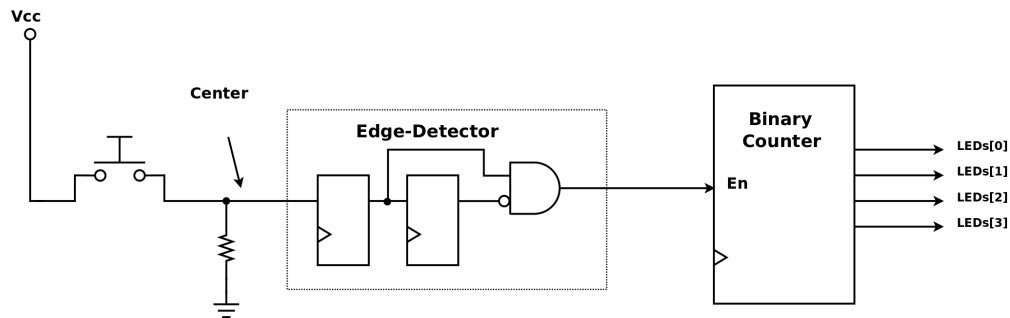

Figure 10: Example Synchronous Circuit without Debounce Circuitry
- (a) Figure 10 provides a simple synchronous circuit that will be sensitive to switch bounce. This circuit contains a binary counter with an enable controlled by the output of an edge-detector. The edge-detection circuitry serves two purposes in this circuit. First of all, it synchronizes the
- (b) The circuit in Figure 10 has been implemented for you in 'noDebounce.v'. Copy this file from the course directory to your lab8 directory and add it to your project. Modify the name of uut in 'Bounce_tb.v' so that 'noDebounce' is being tested instead of 'withDebounce'. Click 'Simulation Settings' on the left panel of Vivado, and click 'simulation' tag. Set the xim.simulate.runtime to be 3000ns. Use 'Bounce_tb.v' as the testbench and run the simulation of 'noDebounce.v'. Check the output waveforms. Does the circuit in 'noDebounce.v' work as expected? Why or Why not?
- (b) Study the circuit in Figure 4. Now take a moment to examine the un-commented Verilog code in 'withDebounce.v'. You should find that this source file contains the circuit in Figure 10 and the circuit in Figure 4 combined into one. Please add comments to the source code and include it in your lab write-up.